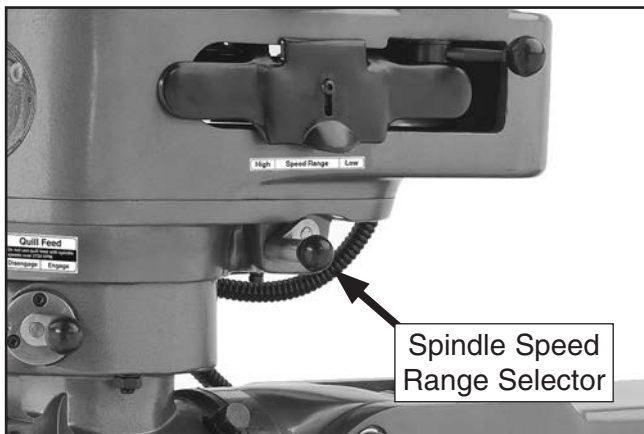

Figure 27. Model G0747 spindle speed range selector in the forward (high) position.
2. Pull the spindle speed range selector knob (see **Figure 27**) out, position the selector in the high or low position, then release the knob to seat the knob pin in the detent.